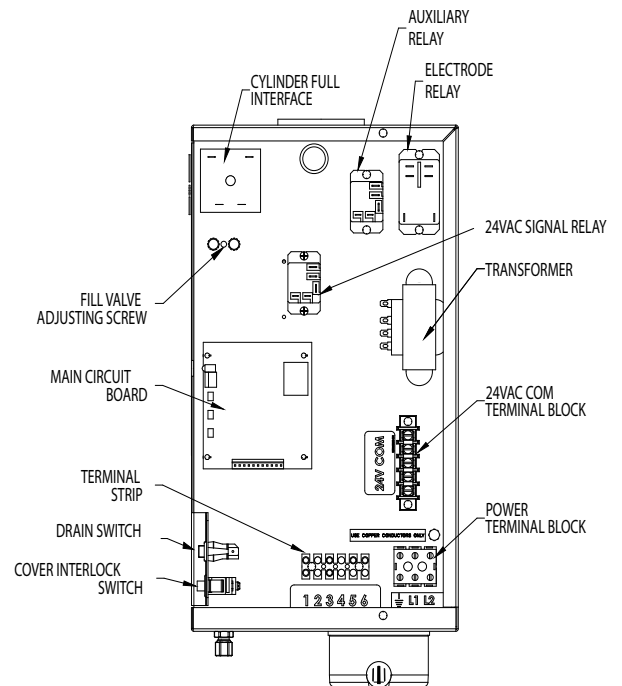
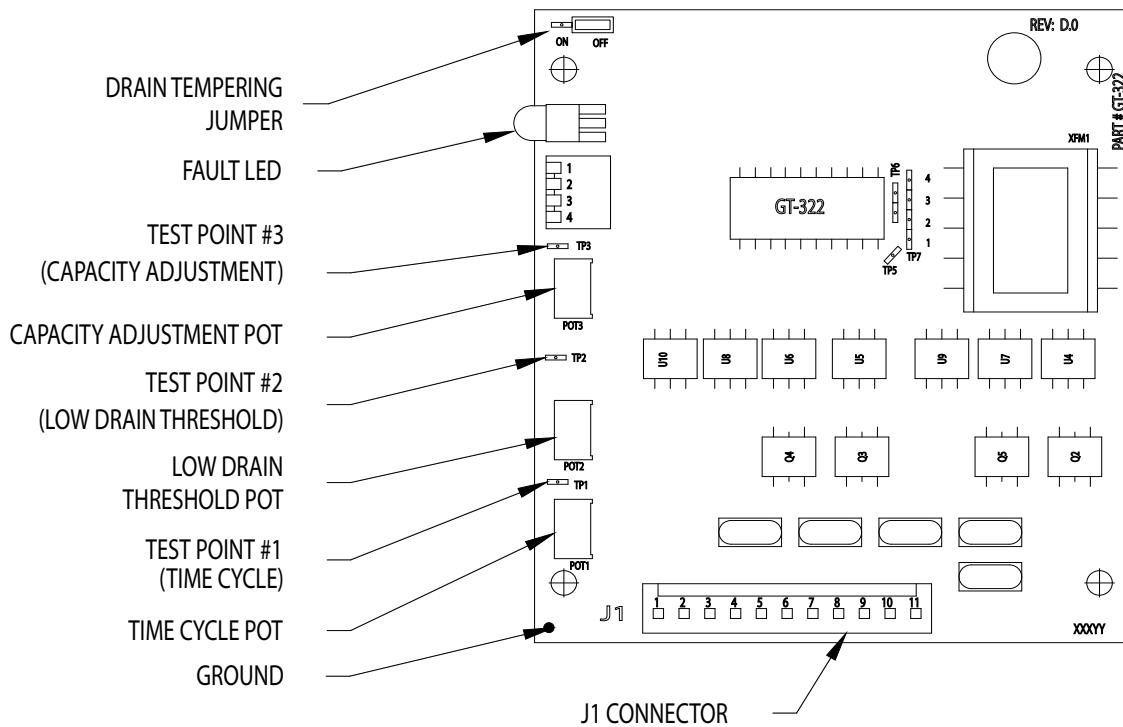

Figure 11 (View in from Right Side of Unit)
Figure 13
Often in residential control environments and some other control system designs, the humidifier is controlled independently and may not be interlocked with the air blower control system. In these cases, the humidifier is equipped with an auxiliary relay (as shown in Figure 11). The auxiliary relay has one set of normally open contacts that can be used to control the air blower system. Those same normally open auxiliary relay contacts close when the humidifier is powered on and generating steam.
10. All units are equipped with a drain tempering feature which mixes cold fill water with the hot drain water to protect drain piping. **Unit is factory set with drain tempering inactive. To activate, move drain tempering jumper to ON position from circuit board.** (See Figure 13.) Depending on your fill water pressure, some adjustment of the fill metering valve may be necessary to ensure drain water of less than 140°F. (See Figure 11.)
Each circuit board (see Figure 13) features three test points to aid in the troubleshooting process. Each of these test points works on a 0-5 VDC scale. "0 VDC" = 0%. "5 VDC" = 100%. All readings are between the test point and ground.
Check water supply. If it is softened, increase the Low Drain Threshold Pot (POT 2) up to XX%. (See Figure 13.)
Unit filling slower or at the same rate as the water is boiling, causing over concentration and foaming. Check restriction in fill line. Adjust the metering fill valve to allow greater flow of water. (See Figure 11.)
Observe the fill tee (GT-120). If water is going down the overflow and the water level is low: <ul style="list-style-type: none"> <li>• Check to ensure that static pressure in the duct is not forcing water down the overflow instead of allowing water to enter the cylinder.</li> <li>• Adjust the fill metering valve to regulate the water flow to the cylinder. (See Figure 11.)</li> <li>• Unit filling slower or at the same rate as it is boiling off, causing over concentration and foaming. Fill rate must be increased. Open metering valve.</li> <li>• If the fill valve is already fully open, get a water analysis and consult the factory.</li> </ul>